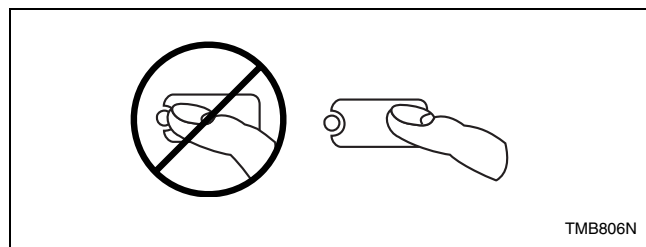

Figure 16
**NOTE:** Do not press directly on lights or the center of pad. For proper selection, press on pad slightly to the right of center. Refer to *Figure 16*.